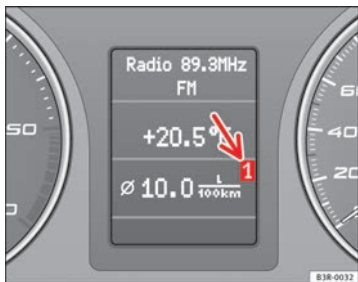

Fig. 59 Onboard computer: memory 1
The numbers in the display ⇒ fig. 59 indicate which of the two memories is currently in use. A **1** means that the display is showing the information in the single journey memory (onboard computer 1). A **2** means that the display is showing the information in the total journey memory (onboard computer 2).
- Press the reset button **(B)** repeatedly until the onboard computer (memory 1 or 2) ⇒ fig. 59 is displayed.